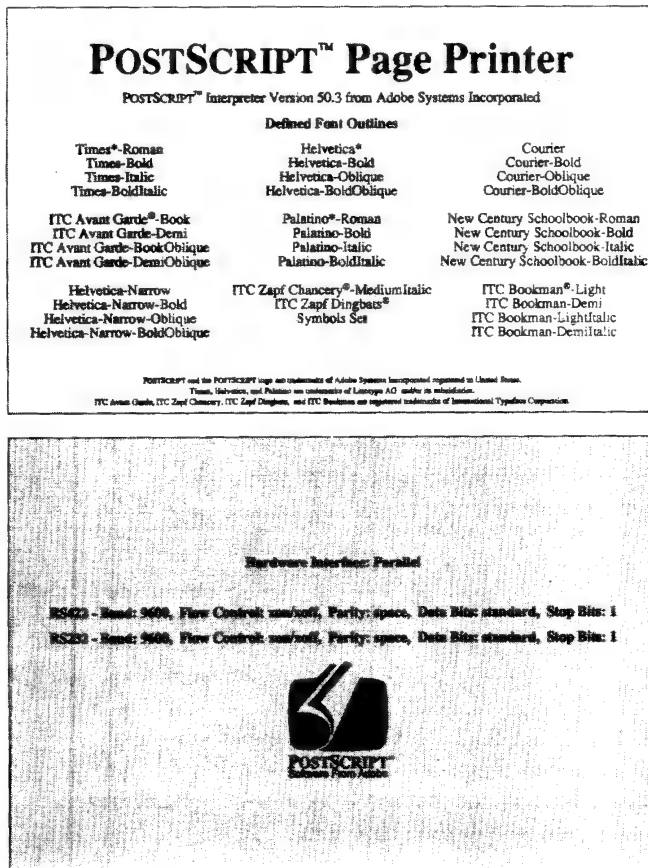

Figure 2-21 Test print (PostScript)
- A start page is printed. This sheet lists the available fonts, the total number of pages printed by your RX7100PS, and some of the interface parameters. A sample start page is shown in Figure 2-21.
The test print should look like the one in Figure 2-21.